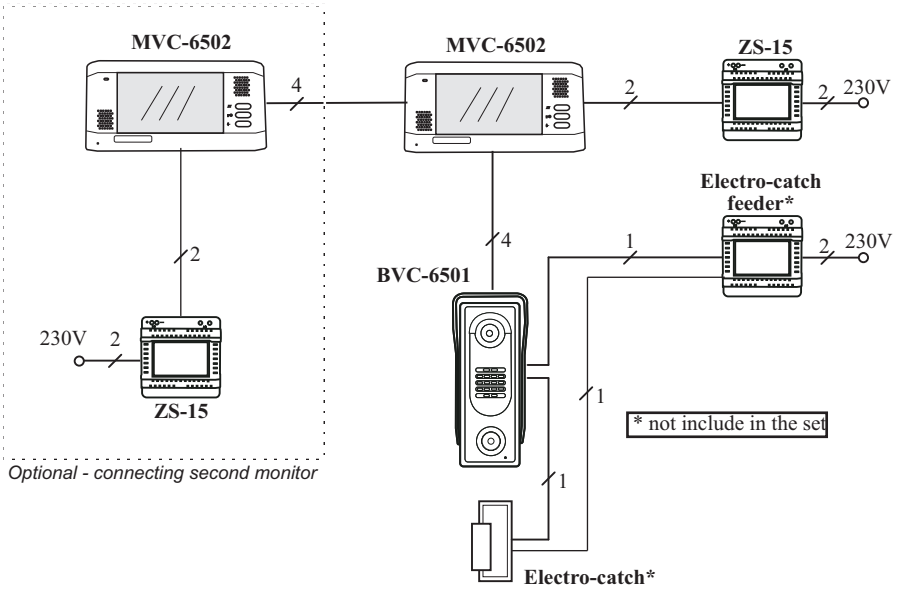

Figure 4. Connection of Libra video door phone - single line diagram
To put down in the ground and outside the room it is necessary to use the damp-proof cables. The number of wires in the cables is shown on the single line diagram (fig. 4).
- In order to connect two MVC-6502 monitors to one external panel, power supply (J100 socket) should be connected in the additional monitor and the two monitors should be connected using J102 sockets. J103 socket in the second monitor is not used. See Figures 4 and 6.